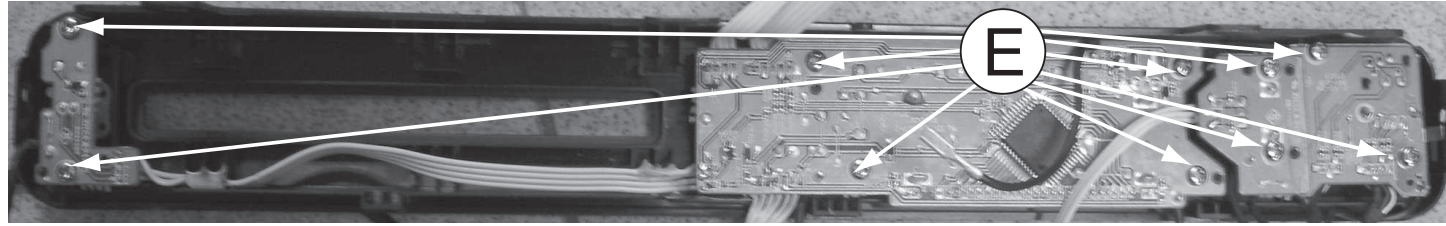

Figure 8
- 1) Loosen 10 screws “E” on the top of DISP+LED+VOL&MP3 IN Board as shown in figure 8.